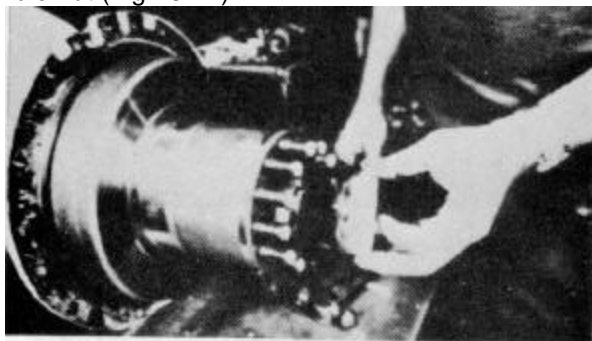
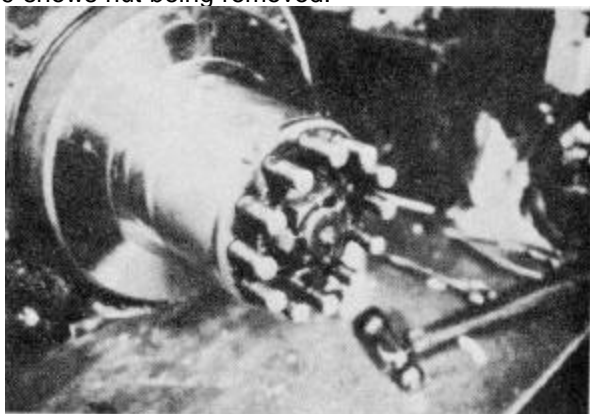

Figure 5-26
Figure 5-27
4. With a screwdriver or small bar, pry off the wheel cap, Fig. 5-26, thereby exposing the end of spindle and spindle nut (Fig. 5-27).